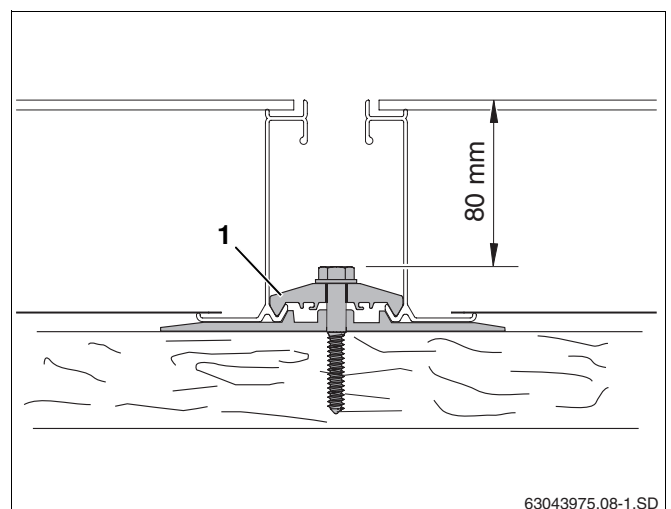

Fig. 29 Screwing in double-sided clamp
- Tighten the screw on the double-sided clamp (Fig. 29, **Item 1**). You will need an extension at least 80 mm in length.